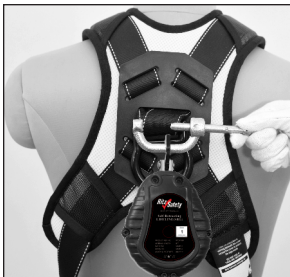

Fig 01
- **Usage as Single or Twin Lanyard.** (Refer fig. 01)